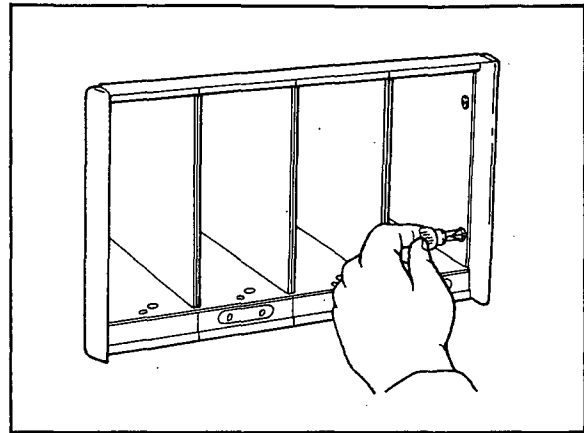

Figure 5-8. Mounting the Right Bezel.
- f. Mount the right side bezel on the housing. See Figure 5-8.